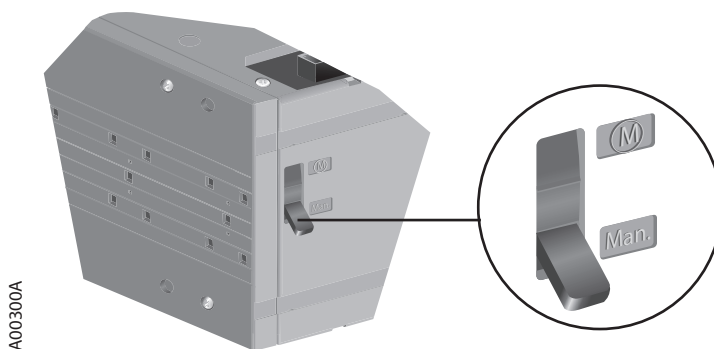

Fig. 6-5 Motor/Manual selection in the Man. position
1. Turn the Motor/Manual selector to the Manual (Man.) position, see Figure 6-5. The motor operator is switched off and electrical control is prevented.